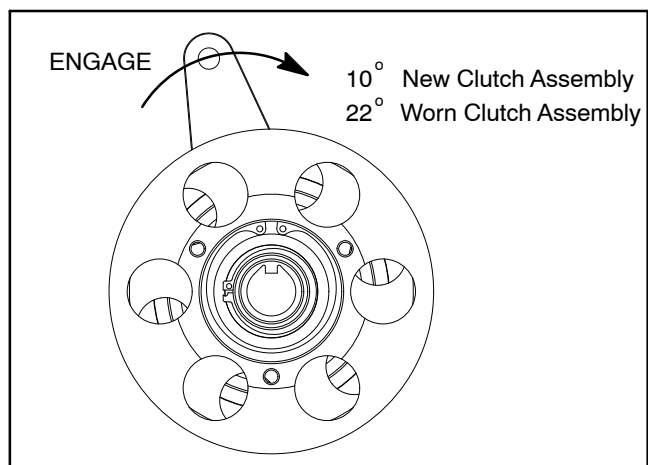

Figure 48
1. Before disassembling clutch, measure rotation angle of clutch lever (Fig. 48). If lever can be rotated more than 22°, the clutch assembly is worn and clutch replacement is necessary.